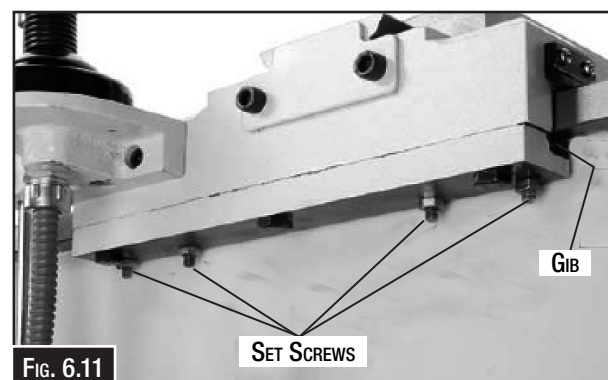

FIG. 6.11
1. Loosen the jam nuts on the four set screws (Fig. 6.11), and adjust the set screws.